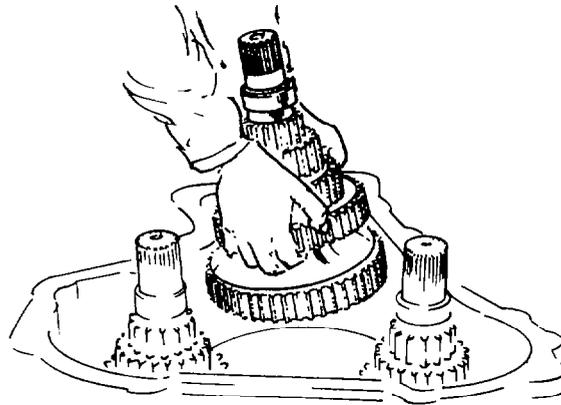

Fig. 194 — Installing Countershaft Assemblies
- a. Position the transmission front case vertically and install the three front countershaft assemblies in the case (see fig. 194).